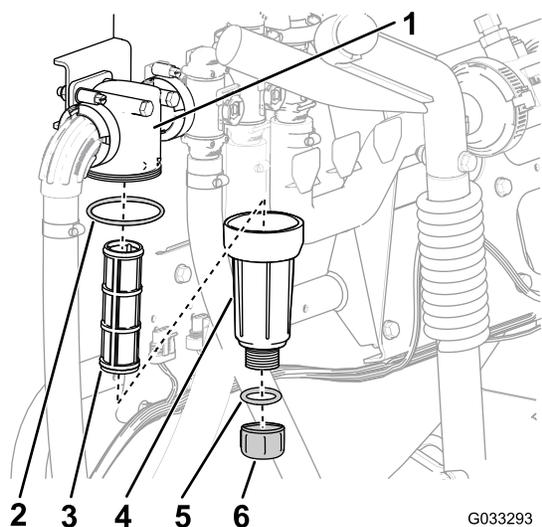

Figure 30
- Align a drain pan under the pressure filter (Figure 30).
3. Rotate the drain cap counterclockwise and remove it from the bowl of the pressure filter (Figure 30).
4. Rotate the bowl counterclockwise and remove the filter head (Figure 30).
5. Remove the pressure filter element (Figure 30).
7. Check the gasket for the drain plug (located inside the bowl) and the gasket for bowl (located inside the filter head) for damage and wear (Figure 30).
8. Install the pressure filter element into the filter head (Figure 30).
9. Install the bowl onto the filter head, and tighten by hand (Figure 30).
10. Assemble the drain cap onto the fitting at the bottom of the bowl, and tighten the cap by hand (Figure 30).